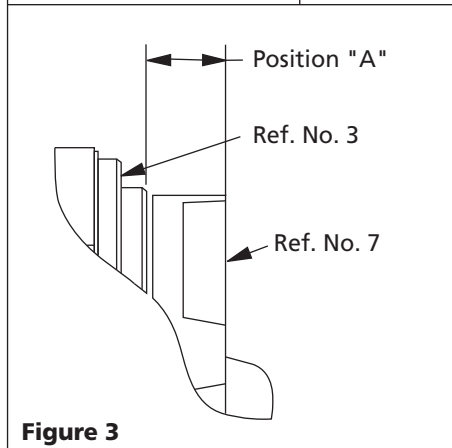

Figure 3
8. By replacing the original shims that came with the pump the impeller height should be properly set. The chart accompanying figure 3 gives